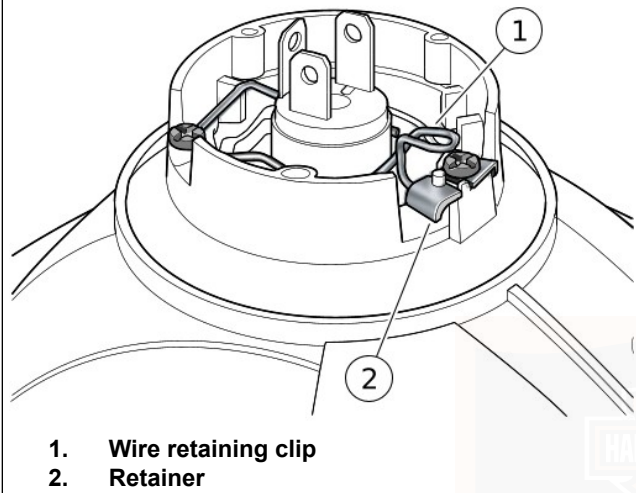

Figure 60. Wire Retaining Clip
3. See Figure 60. Release wire retaining clip (1) from retainer (2). Swing wireform out of the way.
6. See Figure 60. Rotate wire retaining clip (1) into place and latch under lip of retainer (2).